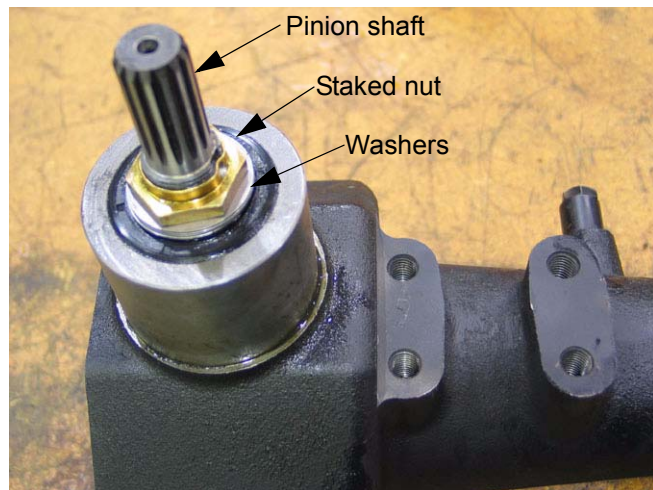

Figure 9.17
9.17. The nut that holds the pinion assembly in place is staked into position. The staking must be chiseled-out. See Figure 9.17.